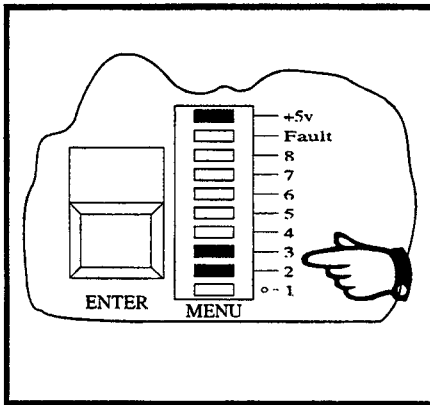

Figure 3-12
- (b) Press the blue **FUNCTION** key **ONCE**. The **Menu** display should cease scrolling and the segment labelled 1 should illuminate. Continue to press the **FUNCTION** key until the segments labelled 2 and 3 are illuminated simultaneously. This combination of segments identifies the auto-zero maximum correction adjustment function. See Figure 3-12.